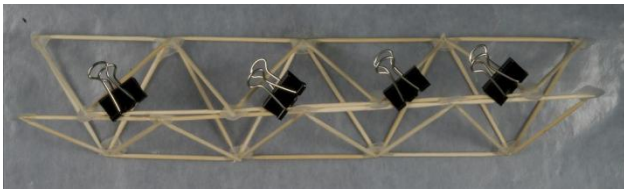

Figure 7. Triangular toothpick pattern folded into a triangular tube shape to form the truss.
1. Peel the pattern off of the wax paper (some of the glue might not be completely dry - this is ok), and fold it together into a triangular tube shape, as shown in Figure 7.